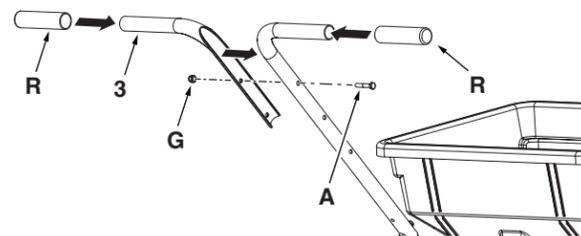

Figure 14
STEP 14: (SEE FIGURE 14)
- Attach the short handle tube (3) to the handle tube using a 1/4" x 1-3/4" hex bolt (A) and secure with a 1/4" nylock nut (G). Slide the handle grips (R) onto the ends of the short handle tube and the handle tube. Tighten hardware.